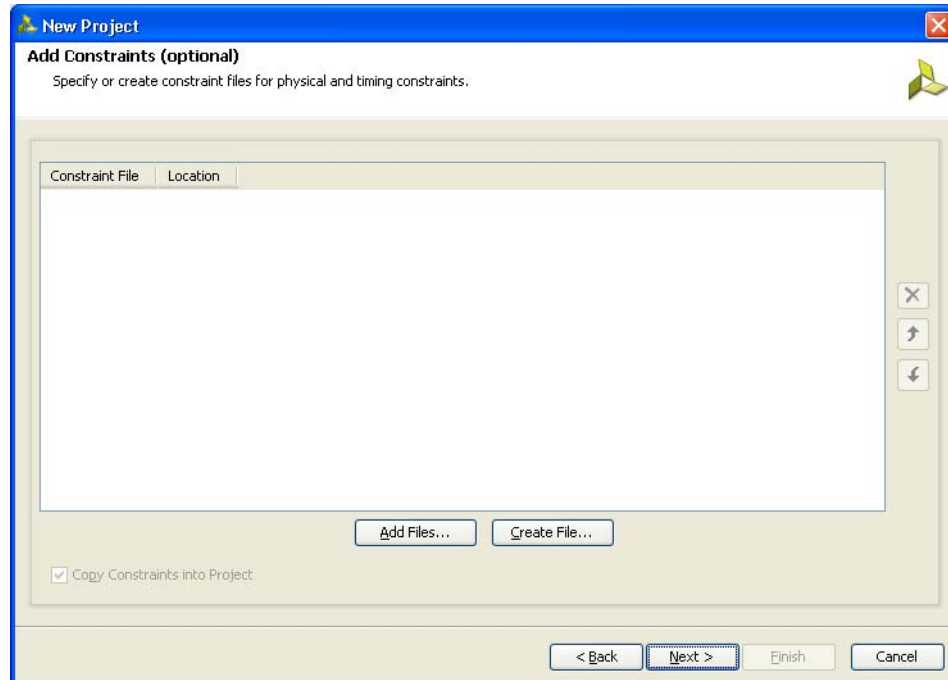

Figure 1-7: Add Constraints (Optional)
- Click **Next** to open the **Add Constraints (Optional)** page (Figure 1-7). If the constraints file exists in the repository, it can be added to the project. Proceed to the next page if the constraints file does not exist.